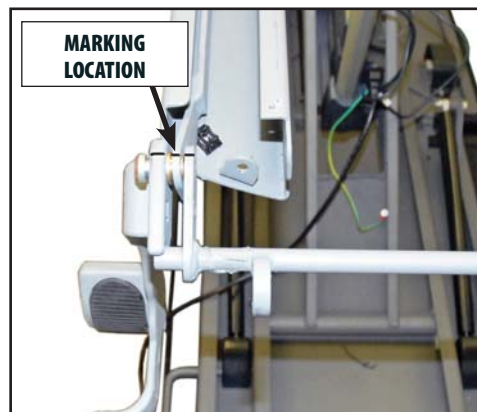

FIGURE 6.54
11. Use a marker to draw a line on the Cam Assembly and Foot Lever and across the top of the Cam Assembly, Caster Rod and Foot Lever. Refer to **Figure 6.54**.
NOTE: The Long Link is the metal bar that runs down the center of the Side Runners connecting the Casters. Refer to **Figure 6.54**.